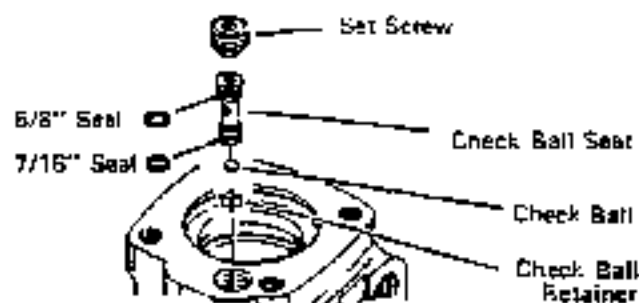

Figure 12
1. Use a needle nose pliers to lower check ball retainer into check valve hole of housing. Make sure retainer is straight (not tilted on edge) in housing, see Fig. 12.
3. Lubricate 5/8" diameter seal and 7/16" diameter seal. Install seals on check ball seat as shown in Fig. 12.
4. Lubricate check ball seat and seals thoroughly before installing seal in housing. When installing seat do not twist or damage seals. Install check ball seat in housing, insert open end of seat first, see Fig. 12. Push check ball seat to shoulder of hole.